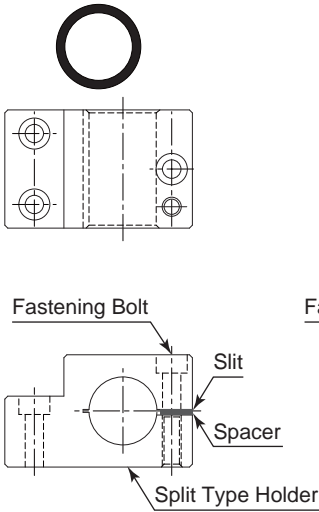
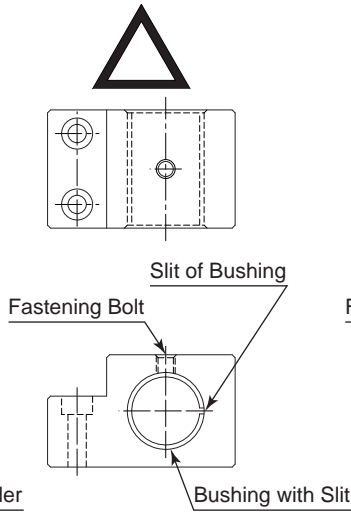

Fig. 16
Fig. 17
(2) When installing a Spindle to the holder, recommended installation method is shown Fig. 16. Refer to " (3) How to fabricate the Split Type Holder ". If this is not possible, install as shown in Fig. 17.